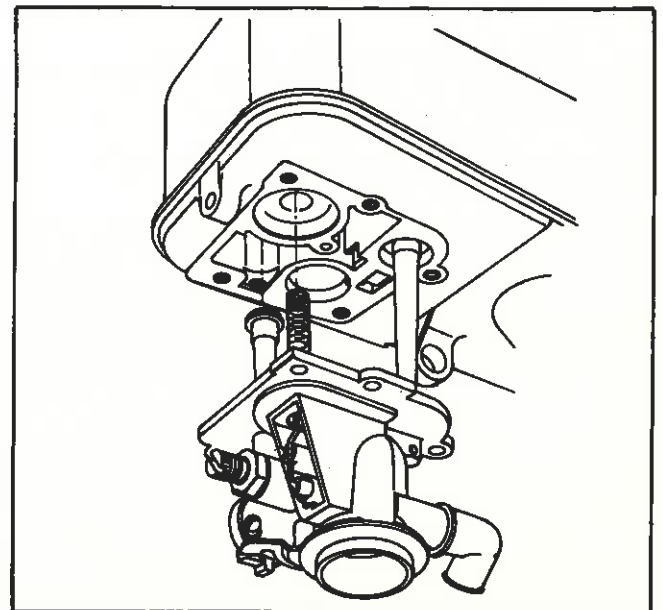

Fig. 14 — Assembling Tank to Carburetor
Lower tank down onto carburetor, while guiding choke spring into spring well, Fig. 14. Holding carburetor and body together, turn assembly right side up. Thread carburetor mounting screws into tank top about two (2) turns. **DO NOT TIGHTEN.**